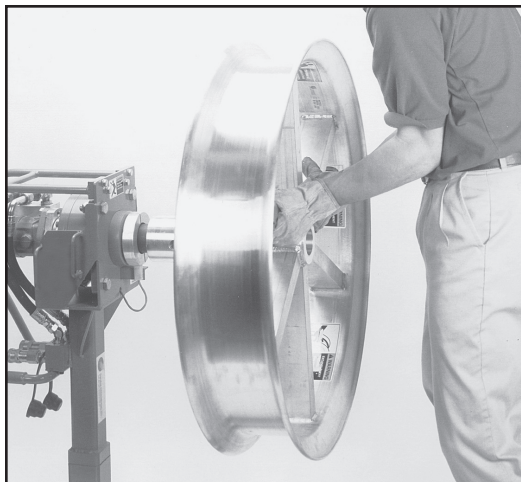

Figure 19. Capstan Disassembly
1. Push inward on the capstan and rotate it counterclockwise (figure 19).